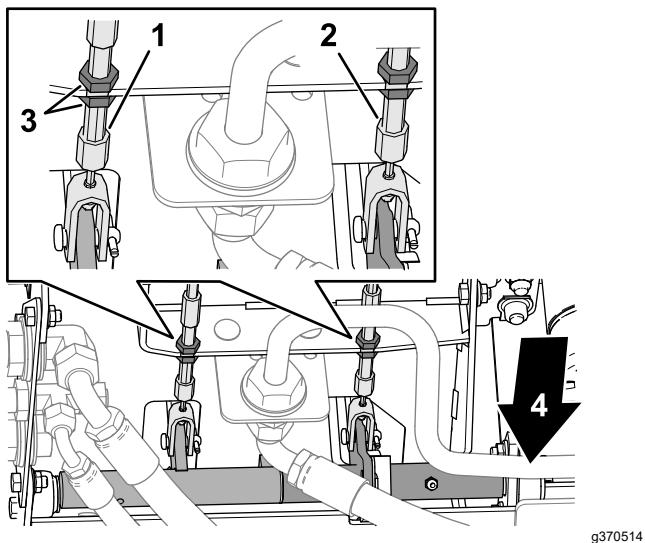

Figure 149
- 3. Loosen the front jam nut on the threaded end of the brake cable (Figure 149).